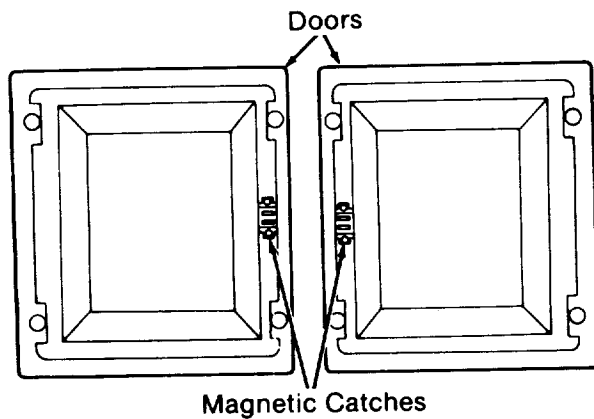

Fig. 40
2. Put a *magnetic catch* on the inside edge of each *door*. (Figure 40)
3. Fasten using four pan head screws. Tighten with a Phillips screwdriver. (Figures 40 & 41)